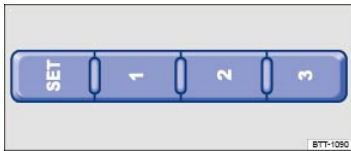

Fig. 95 On the driver seat: Memory buttons.
- Press the SET button for longer than a second ⇒ Fig. 95.